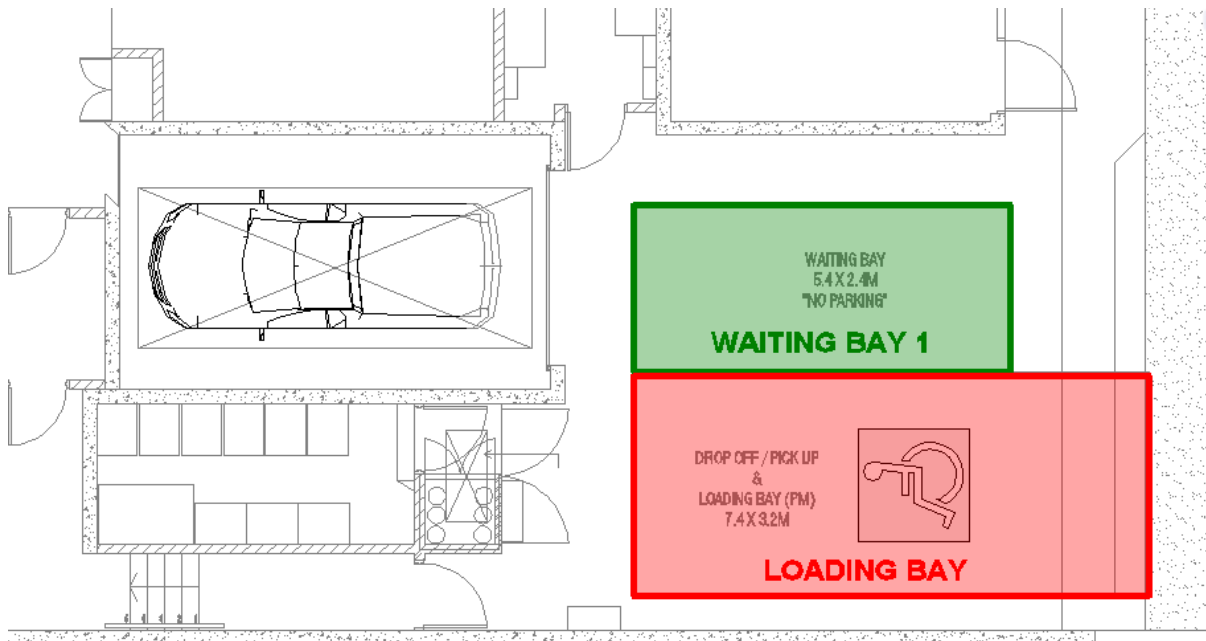

Figure 4: Loading Bay Configuration
- A single waiting bay and single loading bay as shown in **Figure 4**; or